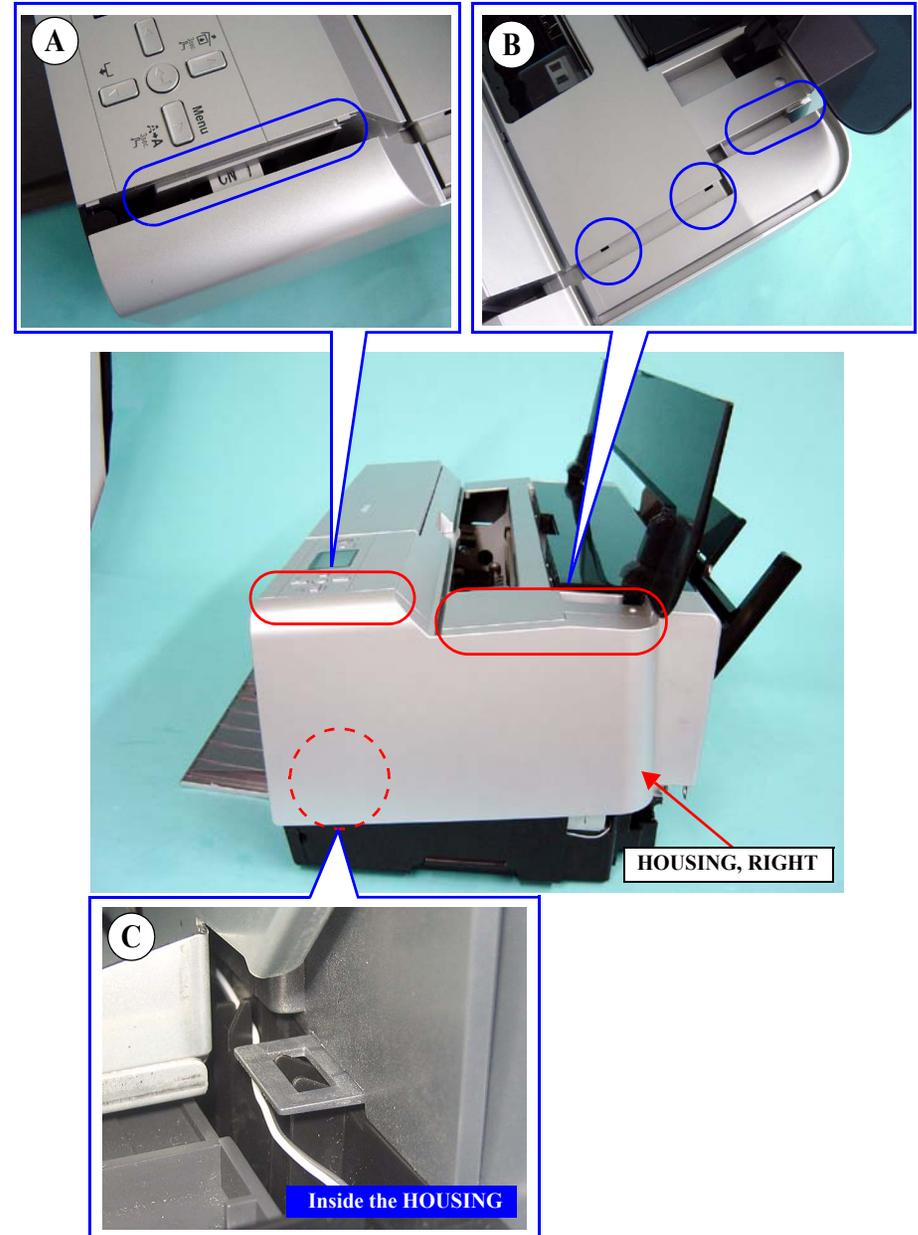

Figure 4-15. Removing the HOUSING, RIGHT
3. Hold the front part of the HOUSING, RIGHT and slightly lift it to release the tabs (A, B) on the upper part of the Housing and the hook (C) in the Housing as shown in *Figure 4-15*, and remove the HOUSING, RIGHT.